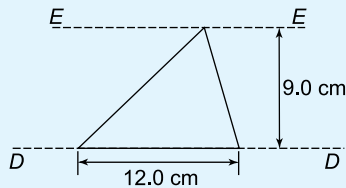

Figure 9.20
2. Determine the second moment of area and radius of gyration for the triangle shown in Figure 9.20 about (a) axis DD (b) axis EE , and (c) an axis through the centroid of the triangle parallel to axis DD .